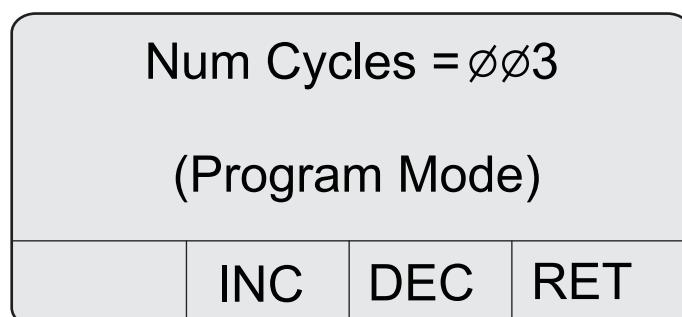

Figure 16 Num cycles screen in program mode
5. Press 4 (RET). The Num Cycles screen is displayed in the Program mode (refer to Figure 16).